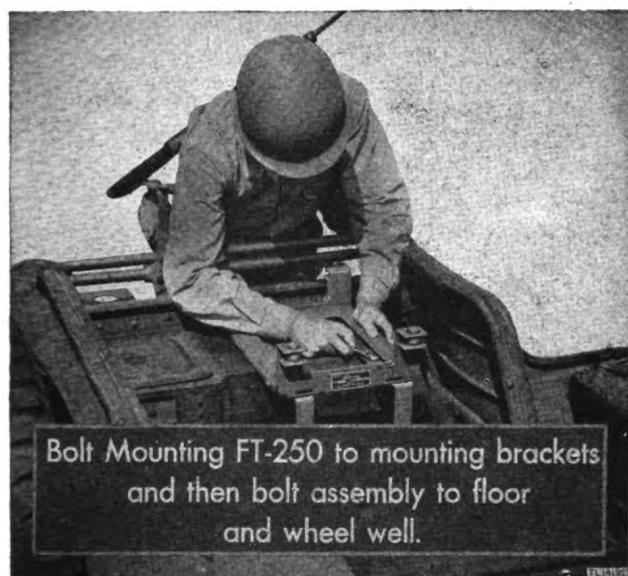

Figure 11. Mounting FT-250-( ), installation.
b. For installation in vehicles or any installation subject to excessive vibration, the entire assembly may be fastened to shock Mounting FT-250-( ) (fig. 11). Space is provided within the case for carrying either Handset TS-13-( ) (fig. 5), a coil of Wire W-29, extension Cord